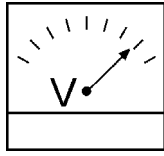

**Figure 40. Frequency Meter**
4. The generator's frequency meter (Figure 40) should be displaying the 60 cycle output frequency in **HERTZ**.